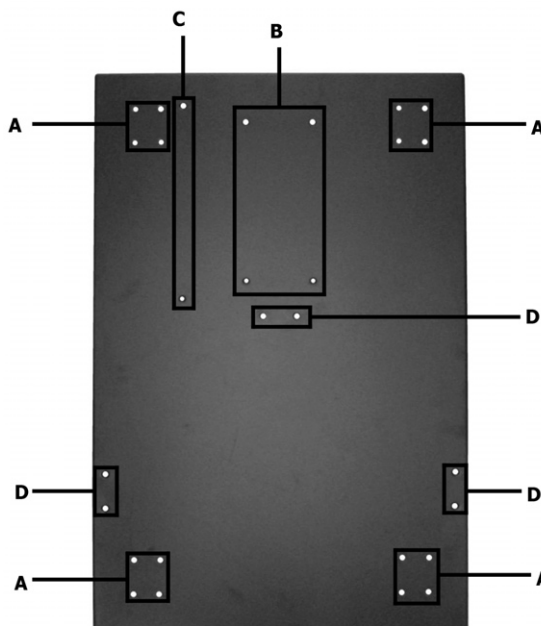

Figure 2 - Layout guide to main base plate assembly.
Refer to Figures 2 and 16.
Refer to Figures 2, 3 and 16.
Refer to Figures 2, 4 and 16.
Refer to Figures 2, 5 and 16.
1. Locate the holes (Fig. 2, Ref. C) for mounting the motor/fan assembly (Ref. No. 8) onto the base plate (Ref. No. 3).
Refer to Figures 2, 8 and 16.